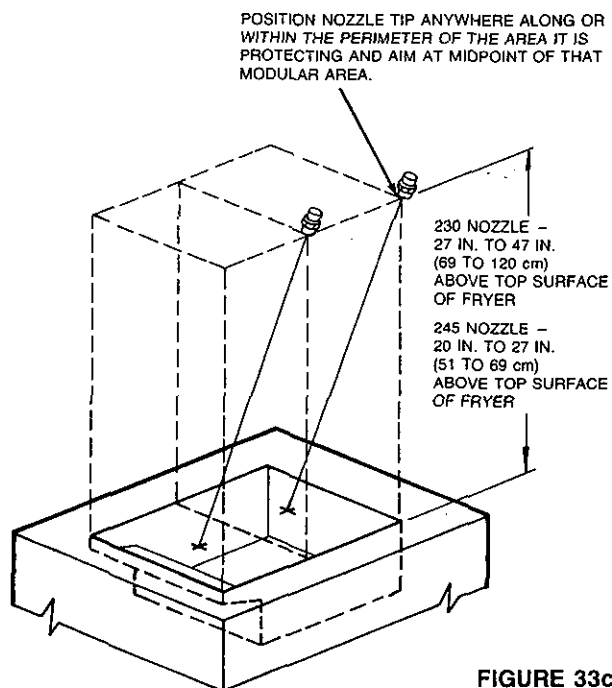

FIGURE 33c
1. **High Proximity Applications:** 27 to 47 in. (69 to 120 cm) above the top surface of fryer. See Figure 33c.
2. **Medium Proximity Applications:** 20 to 27 in. (51 to 69 cm) above top surface of fryer. See Figure 33c.
To protect each area, the nozzle tip must be located within the perimeter of the area it is protecting and aimed at the mid point of the respective modular area. See Figure 33c.